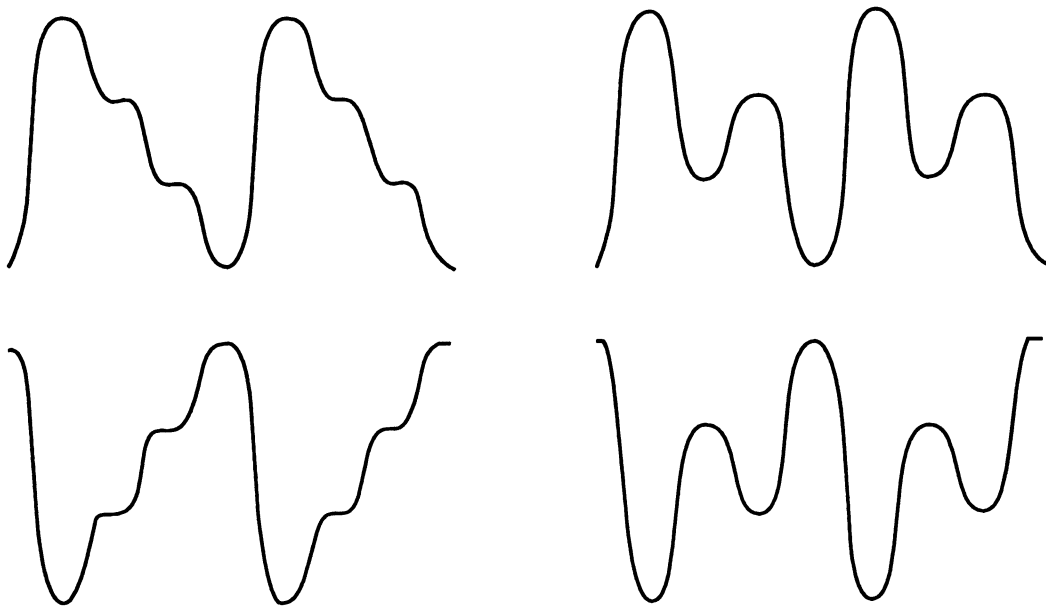

Figure 20. Four-Level Possible Patterns - Point C
Step 4. Compare and match the eye pattern displayed on the oscilloscope to one of the four patterns in Figure 20. If you are using a Model TDS 420, set up the scope as follows to see the eye pattern:
Step 6. Compare and match the eye pattern displayed on the oscilloscope to one of the four patterns in Figure 20. If you are using a Model TDS 420, set up the scope as follows to see the eye pattern: